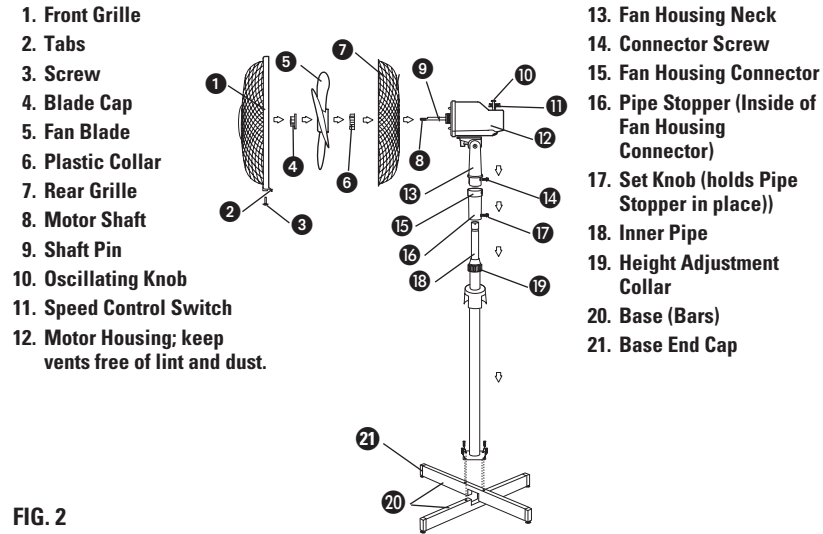

FIG. 2
3. **CAUTION: Never remove the set knob, which holds the pipe stopper in place (See Fig. 2).**
7. Insert the blade onto the motor shaft, matching the slot on the back of the blade with the shaft pin (Fig. 2). Secure blade with blade cap, turning counterclockwise to tighten.
**TO CLEAN:** Before cleaning, turn fan off and unplug from electrical outlet. Wipe off excess dust with a lint-free cloth. To ensure adequate air circulation to the motor, keep vents located at the rear of the motor housing free from dust accumulation. A vacuum cleaner hose can be used to clean these vents. Do not submerge your fan in water or any other liquid. Disassemble grilles and blade (Fig. 2). Grilles and blade may be cleaned with mild soap and water. Use a soft, slightly damp cloth to wipe the remaining fan parts. Do not allow water or any other liquid to get into the motor housing or base. Reassemble fan after grilles and blade have dried completely. Do not plug fan into electrical outlet until it has been fully reassembled.